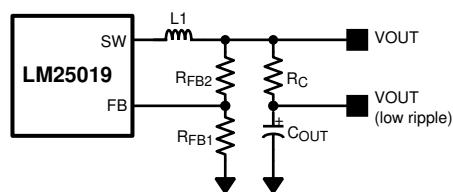

Figure 7-2. Low Ripple Output Configuration
This regulator regulates the output voltage based on ripple voltage at the feedback input, requiring a minimum amount of ESR for the output capacitor (C_{OUT}). A minimum of 25 mV of ripple voltage at the feedback pin (FB) is required for the LM25019. In cases where the capacitor ESR is too small, additional series resistance can be required (R_C in Figure 7-2).
For applications where lower output voltage ripple is required the output can be taken directly from a low ESR output capacitor, as shown in Figure 7-2. However, R_C slightly degrades the load regulation.